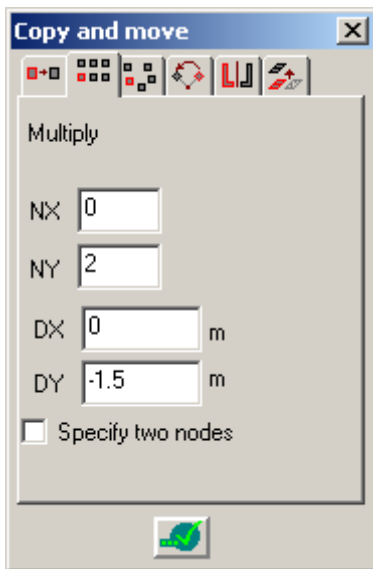

Figure 1.5.16 **Copy and move** dialog box (**Multiply** tab)
- click the **Multiply** tab  (see Fig.1.5.16);